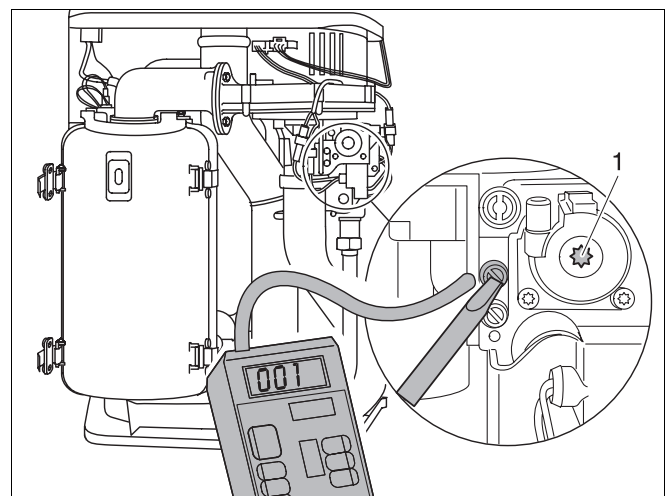

Fig. 33 Check the gas/air ratio
- Unscrew the sealing closure of the burner-pressure testing nipple by one turn (fig. 33).
- Connect the positive port of the pressure gauge with a hose to the burner pressure measuring nipple (fig. 33).
- If the gas/air ratio does not conform to specifications, re-adjust at the setscrew (fig. 33, item 1).